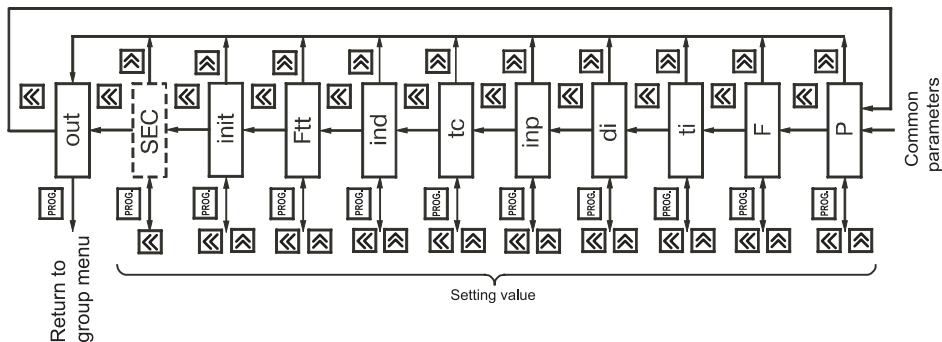

Figure 25.
6.1.8. «**Group_C**» group (figure 25) contains **inP** and **tc** parameters that define operation mode of the input commutator, coefficients of predivider **P** and multiplier **F**, measuring time **ti** and initial bias **di** for flow meter, and also operation modes of timing device **Ftt**, indication **ind** and reset of counter of impulses at switching on the instrument **init**.